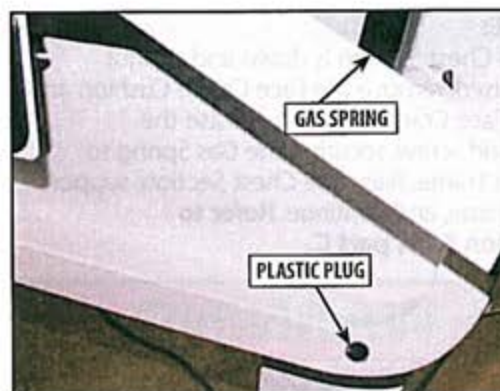

FIGURE 5.9
5. Remove the plastic plug covering the outside of the Upper Support Frame to allow access to the bolt. Refer to Figure 5.9.